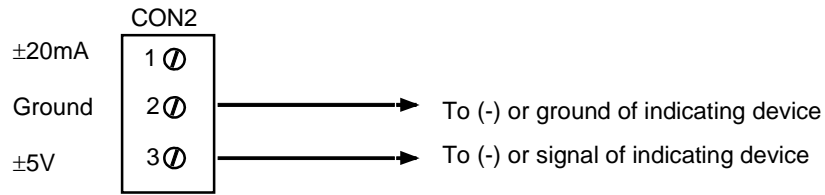

Fig. 4.3 - Voltage Output
- 4.5.1 Voltage Output - Connect between the ground terminal and  $\pm 5$  volt terminal of the internal connection block. Ref. Fig. 4.3.